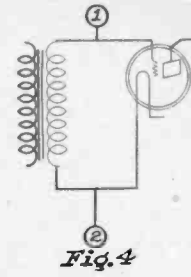

Fig. 4
- Fig. 4. Circuit illustrating the use of the voltmeter for measuring the audio frequency input voltage to an amplifier tube.
may be measured. The numbers enclosed in the small circles correspond with the terminals of the same numbers on the meter. Figs. 14 and 15 show how to measure the radio frequency voltage across the tuned circuit in the detector stage with and without regeneration. Fig. 4 shows how the meter may be used to measure the audio frequency input voltage to an amplifier tube, or the voltage across the secondary of a transformer.